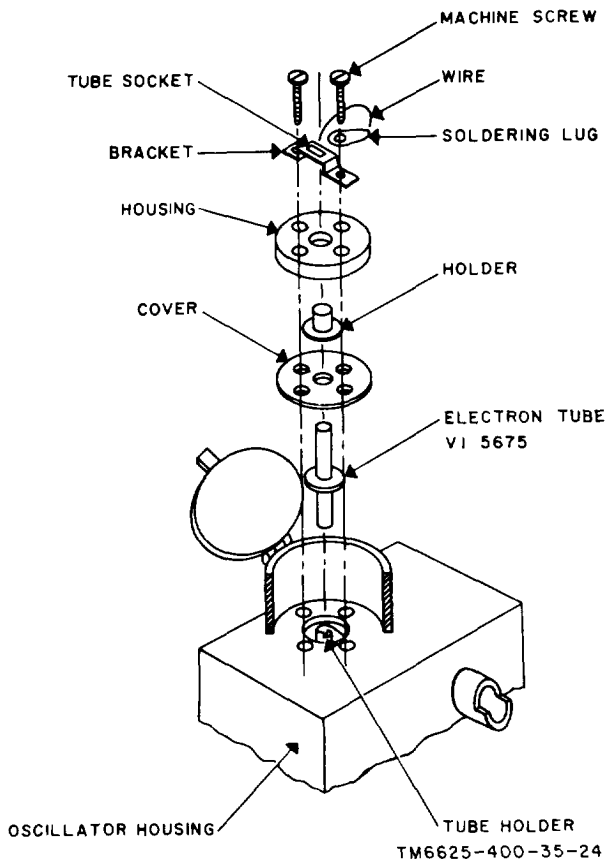

Figure 23. Replacement of V1.
- (3) Place the coupling (39) over the tuning capacitor shaft.
- (4) Tighten the setscrews (38) on the shaft.
- (5) Tighten the screws that hold the tuning capacitor (31) to the bracket (30). Be sure that the shaft rotates freely.
- (6) Replace resistors R7 and R8 to the capacitor contact assembly (28) and plateholder assembly (17) contacts.
- (7) Replace V1.
- (8) Replace the rotor shaft (9) in its original position.
- (9) Push the rotor shaft (9) into position.
- (10) Tighten the detent arm (5) by tightening the screw (3) attached to the detent bracket (4).
- (11) Replace the retaining ring (10) in the groove in the rotor shaft (9).
- (12) With the rotor in position, tighten the setscrew (24) on the rotor hub.
c. Replacement of Electron Tube V1 (fig. 23).
- (1) List up the lid that covers the tube enclosures.
- (2) Remove the two screws that hold the tube socket bracket assembly.
- (3) Lift off the socket bracket assembly.
- (4) Remove the two remaining screws.
- (5) Lift off the upper disk, the cathode contact, and the lower disk.
- (6) Pull the tube straight up to remove it from the plate contact.
- (7) Insert new tube into the plate contact.
- (8) Be sure that the grid makes contact with the grid contact mounting of the tuning capacitor.
- (9) Replace the lower disk, cathode contact, and upper disk.
- (10) Replace the two screws that do not hold the socket bracket.